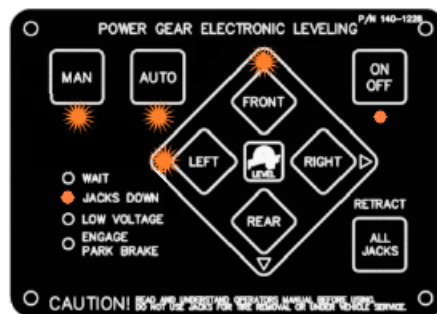

Figure 1 Showing Error Mode
When the control is in error mode the **MAN** and **AUTO** lights will flash along with the corresponding arrow lights on the touchpad. The arrow lights indicate which jack is in error. **See Figure 1.** The control will go into error mode for one of 4 reasons:
**Example: Left arrow light and Front arrow light would indicate the left front jack has experienced an error. See Figure 1.**